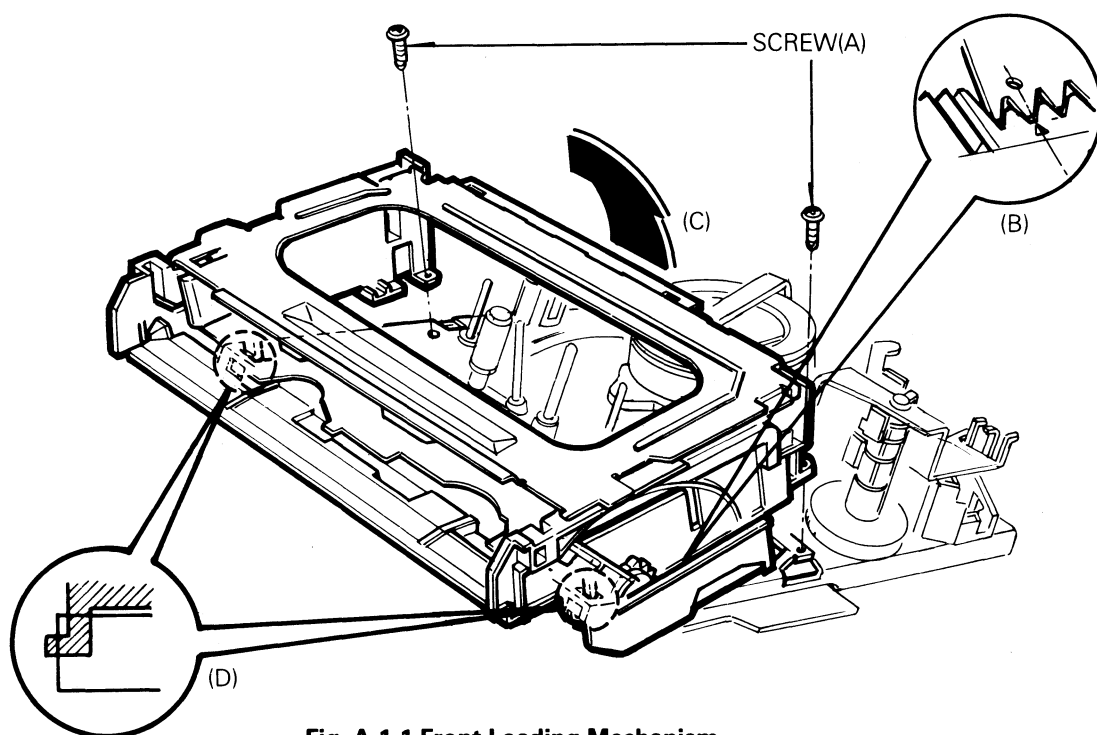
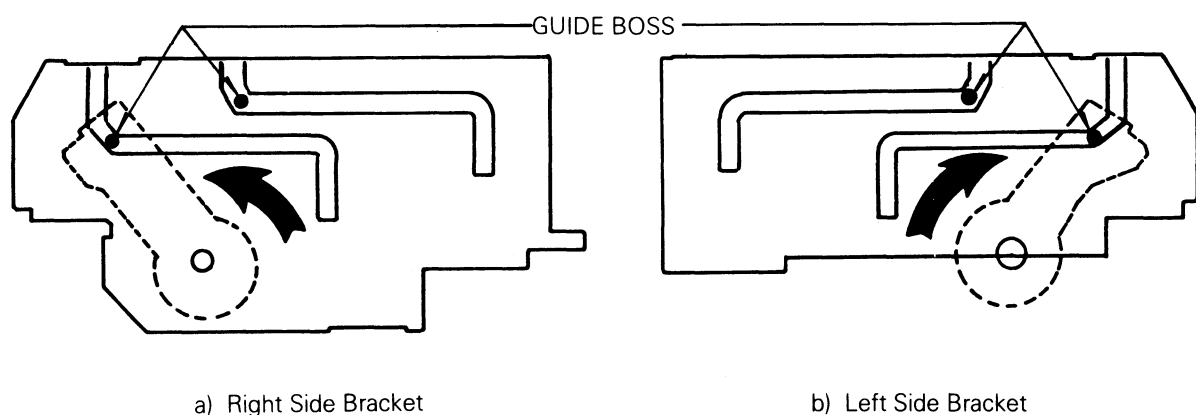

Fig. A-1-1 Front Loading Mechanism
Fig. A-1-2 Carrier Bracket Assembly
## 1. Front Loading Mechanism Assembly (Fig. A-1-1)
- ① Give special attention to removal, because two tabs(D) are engaged.
- ② Make sure that Bosses of Bracket(L),(R) are properly engaged in the holes of the chassis.
- ③ To reassemble Front Loading Mechanism, the Drive Gear Assembly should be turned in a counterclockwise as shown in Fig. A-1-2 so that the Rack Gear N.D of Front Loading Mechanism Assembly is meshed into Rack Gear F.L of Deck Mechanism Assembly correctly as shown in Fig. A-1-1.(B).